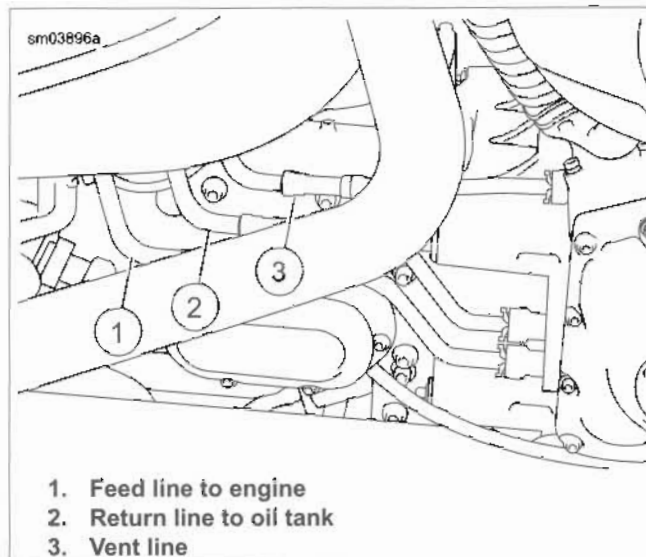

Figure 3-181. Oil Line Fittings/Retainers
- See Figure 3-181. Small retainers connect the vent line (3) to the oil tank and to the engine.
- Large retainers connect the feed line to engine (1) and return line to oil tank (2) to the oil tank and to the engine.